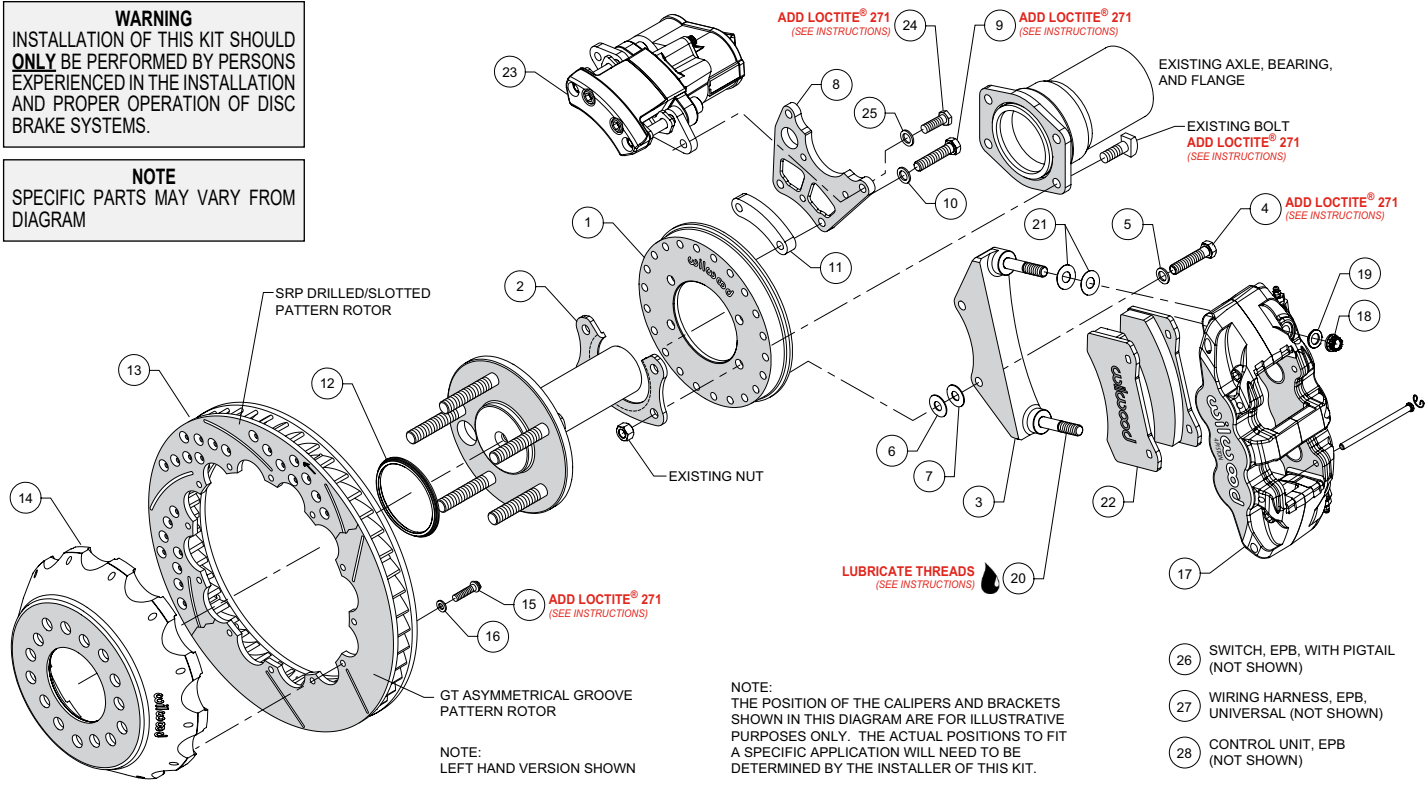
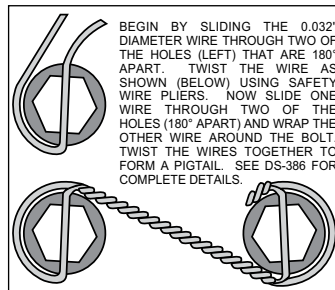

Figure 1. Typical Installation Configuration
Figure 5. Safety Wire Diagram
NOTE: Numbers in parenthesis refer to the parts list, and Figure 1 on the preceding pages.
- Orient the backing plate (1) as shown in Figure 1 and Photo 1, and slide it onto the axle housing flange. Ensure the backing plate fits flush against the axle housing flange. Reinstall the axle into the axle housing.
- Install the bearing retainer (2) with the opening pointing upward and the lip facing inward (toward the bearing), as shown in Figures 1 and 4, and Photo 2. Secure retainer and backing plate to the axle housing flange using the Original Equipment Manufacturer (OEM) bolts and nuts, Figure 1 and Photo 3. Apply red *Loctite*® 271 to the OEM bolt threads and torque to OEM specifications.
•Start by determining the best location for the service caliper (17). This caliper is usually mounted in the 3:00 or 9:00 o'clock position, but may be rotated up or down approximately 45 degrees and still allow for proper bleeding, Photo 4. Orient the service caliper bracket (3) as shown in Figure 1 and Photo 5, and install to the backing plate (1) in the desired location
using bolts (4) and washers (5). Temporarily tighten bolts. Next, mount the service caliper onto the bracket. Lubricate the caliper mounting studs (20) with lightweight oil. Mount the service caliper using lock nuts (18) and washers (19), Figure 1. Temporarily tighten the lock nuts. Check that the caliper (including inlet fitting and hose) has sufficient clearance to all surrounding components through the full suspension travel. Relocate the caliper/bracket on the backing plate as needed to ensure proper clearance is achieved.
•Determine the best location for the EPB caliper (23). **NOTE:** *The EPB caliper motor extends farther inboard than the service caliper and therefore needs additional consideration when determining a mounting location with sufficient clearance.* In the example application shown in Photo 6, the EPB caliper has sufficient inboard clearance to the leaf spring. However, if the EPB caliper were mounted closer to the 12:00 o'clock position, the inner body of the vehicle would hit the caliper during full compression of the suspension.
•Orient the EPB caliper bracket (8) as shown in Figure 1 and Photo 7, and install to the backing plate (1) in the desired location using bolts (9), washers (10), and spacer (11). Temporarily tighten bolts. **NOTE:** The EPB bracket is reversible. In one direction the bracket will position the EPB caliper closer to the service caliper, and vice versa if reversing the bracket. Next, mount the EPB caliper (23) to the bracket using bolts (24) and washers (25). Temporarily tighten bolts. **NOTE:** EPB calipers are Left and Right handed, however they can be used on either side of the vehicle to best suit your specific application. Check that the EPB caliper (including wiring harness connector) has sufficient clearance to all surrounding components through the full suspension travel. Relocate the EPB caliper/bracket on the backing plate as needed to ensure proper clearance is achieved.
•Orient the rotor (13) and the hat (14) as shown in Figure 1 and Photo 8. Attach rotor to hat using bolts (15) and washers (16). Apply red Loctite® 271 to the bolt threads and torque to 155 in-lb using a criss-cross pattern. For an added measure of security, the bolts may be safety wired using standard 0.032 inch diameter stainless steel safety wire as shown in Figure 5. Please refer to Wilwood's data sheet DS-386 (available at www.wilwood.com/Pdf/DataSheets/ds386.pdf) for complete safety wire installation instructions.
•Initially place two .030" thick shims (21) on each stud of the service caliper bracket (3), as shown in Figure 1 and Photo 10. Mount the caliper onto the bracket using lock nuts (18) and washers (19), Figure 1. Temporarily tighten the lock nuts and view the rotor through the top opening of the caliper. The rotor should be centered in the caliper, Photo 11. If not, adjust by adding or subtracting shims (6 and/or 7)) between the service caliper bracket (3) and the backing plate (1). Always use the same amount of shims on each of the two mounting bolts. Once the caliper alignment is correct, remove the bracket mounting bolts (4) one at a time, apply red Loctite® 271 to the threads, and torque bolts to 35 ft-lb.
- Remove the service caliper (17), then remove the two pad retaining pins from the caliper by carefully popping out the pin retaining clips and sliding out the pins. Insert the brake pads (22) into the caliper from the bottom, Figure 1 and Photo 12. With the friction material facing the rotor, secure the brake pads in place with the pad retaining pins and clips, Photo 13. Reinstall the caliper onto the mounting bracket and temporarily tighten the lock nuts. Check that the top of the brake pad is flush with the outside diameter of the rotor, Photo 14. If not, adjust by adding or subtracting shims (21) between the caliper and the bracket. After the caliper pad height is set, torque the caliper lock nuts (18) to 47 ft-lb.
- Mount the EPB caliper (23) onto the caliper mounting bracket (8) using bolts (24) and washers (25), Figure 1. Apply red *Loctite*® 271 to bolt threads, and torque to 30 ft-lb.
- NOTE:** *The service caliper (17) in this brake kit utilizes a 1/8-27 NPT pipe thread inlet. OEM rubber brake hoses generally cannot be adapted to Wilwood calipers. The preferred method is to use steel adapter fittings at the caliper, either straight, 45 or 90 degree (use PTFE tape on pipe threads for proper sealing to caliper) and enough steel braided line to allow for full suspension travel. Carefully route hoses to prevent contact with moving suspension, brake or wheel components. NOTE: Wilwood hose kits are designed for use in many different vehicle applications and it is the installer's responsibility to properly route and ensure adequate clearance and retention for brake hose components. Wilwood offers universal brake flex line hose kits, domestic (3/8-24 IF) chassis fittings, order:*